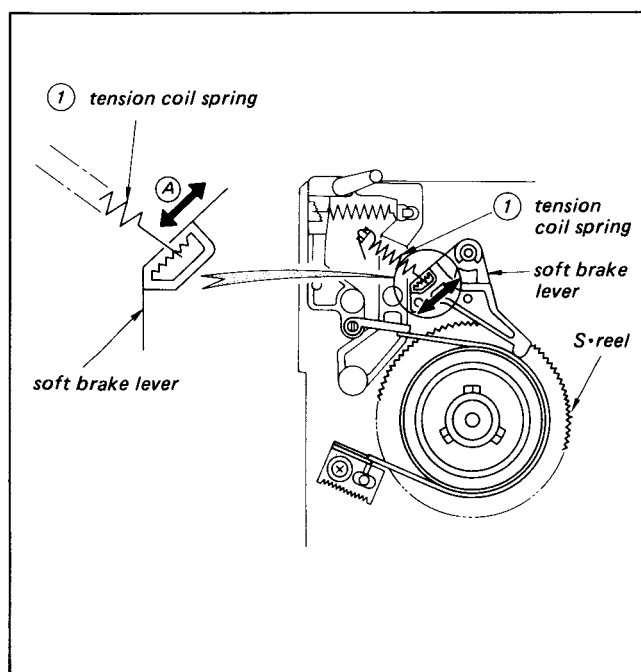

Fig. 3-31. Soft Brake Adjustment-2
- 2) Adjust by moving the tension coil spring ① in the direction of the arrow (A) until the sector type gauge reading is 8 g when the FF mode is set up. (See Fig. 3-31)